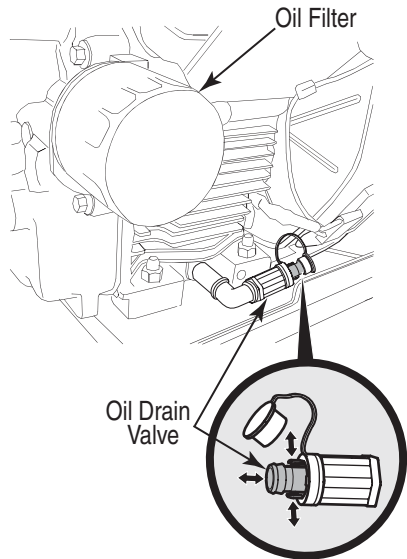

Figure 24
- Pop open the protective cap on the end of the oil drain valve to expose the drain port. See Figure 24. Remove the dipstick from its tube.
- Pinch in the lock tabs on the oil drain valve, then pull the drain port outward to begin draining oil. Refer to Figure 24.
- Clean around the base of the oil filter, the oil filler cap, and the dipstick tube to prevent debris from entering the crankcase. See Figure 24 and Figure 26.